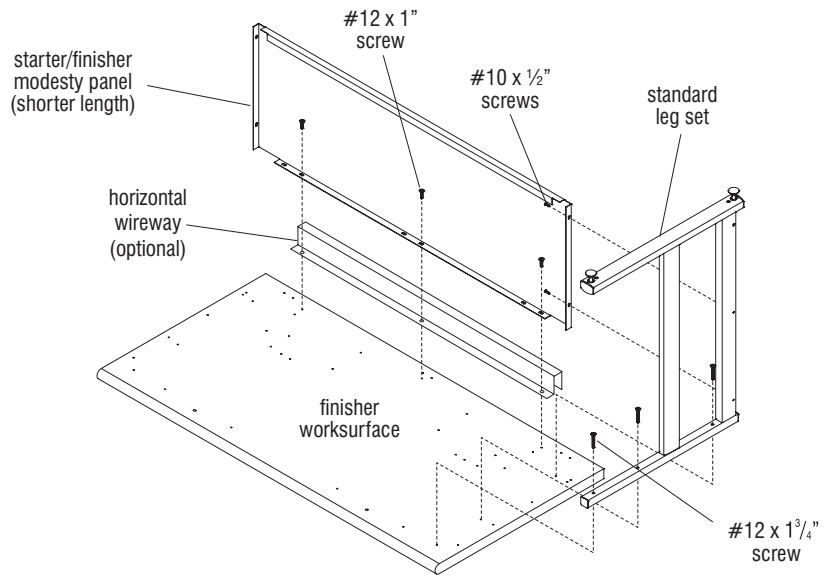

Figure 3 - Finisher Worksurface
8. To avoid scratching top, carefully lay finisher worksurface upside down on a soft, protective surface. Install a standard leg set to the underside of the worksurface at pre-drilled holes using three #12 x 1³/₄" screws. The standard leg set is "not shared" so should not be installed to the mounting holes closest to the edge of the worksurface (Figure 3).
9. Position a starter/finisher modesty panel over the mounting holes in the worksurface, and next to the standard leg as illustrated. If optional horizontal wireway is to be installed to unit, place the wireway between mounting flange of modesty panel and the worksurface, aligning the mounting holes as illustrated. Secure modesty panel to worksurface with three #12 x 1" screws, and attach one modesty panel end to the standard leg using two #10 x 1/2" screws (Figure 3).